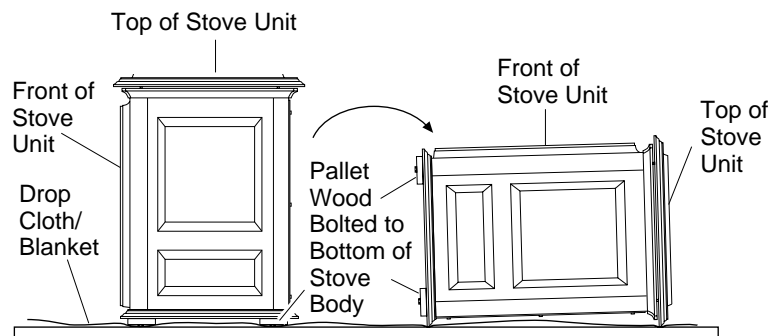

Figure 7 - Laying Down Stove On Side
6. Carefully lay stove body on back to attach bottom components to stove body (see Figure 7). Rest stove on drop cloth or blanket to avoid scratching stove edges.